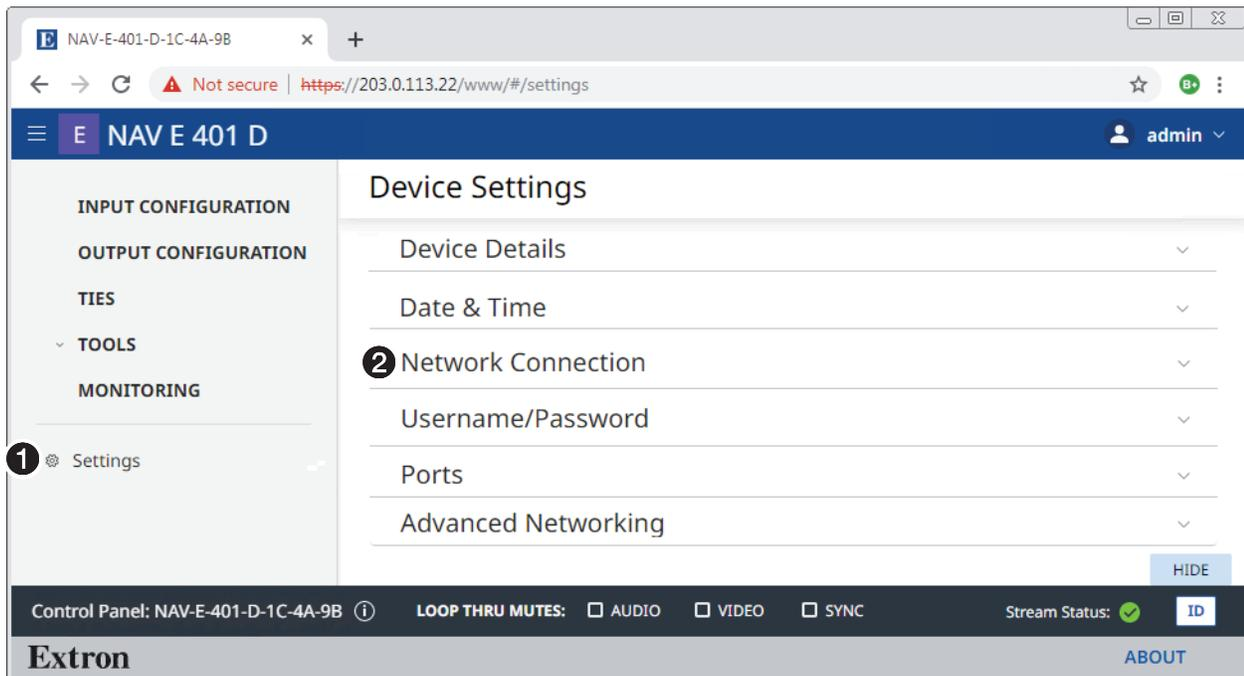
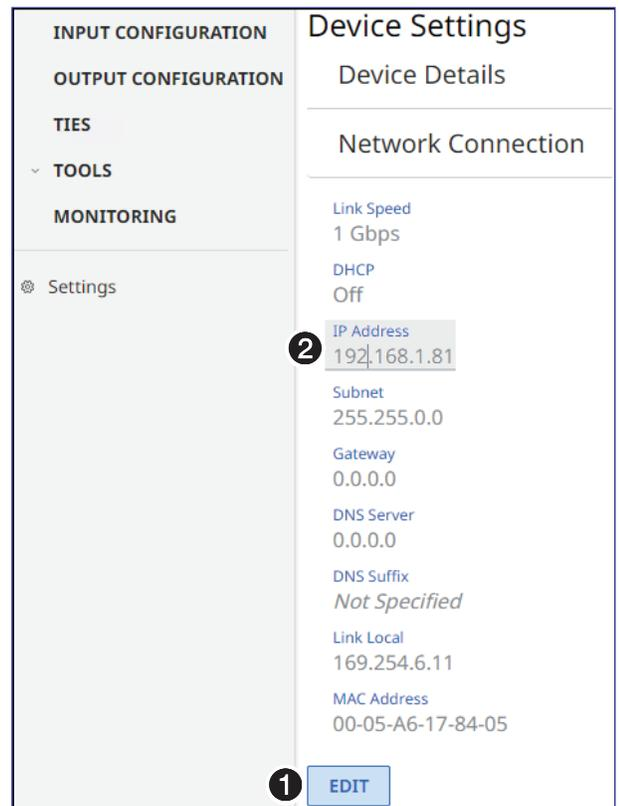

Figure 7. Home Page
Figure 8. Network Connection Pane
6. Complete the **Username** (see figure 6, ❶ on page 5) and **Password** (❷) fields and click **Sign In** (❸). The browser opens to the home page of the embedded web pages (see figure 7).
1. On the home page, click **Settings** (see figure 7, ❶) > **Network Connection** (❷). The Network Connection pane opens (see figure 8), showing protected views of the network connection settings.
2. **To change the settings**, click **Edit** (see figure 8, ❶). The Edit button changes to Save.
3. Click in the desired field (❷) and edit it as desired.